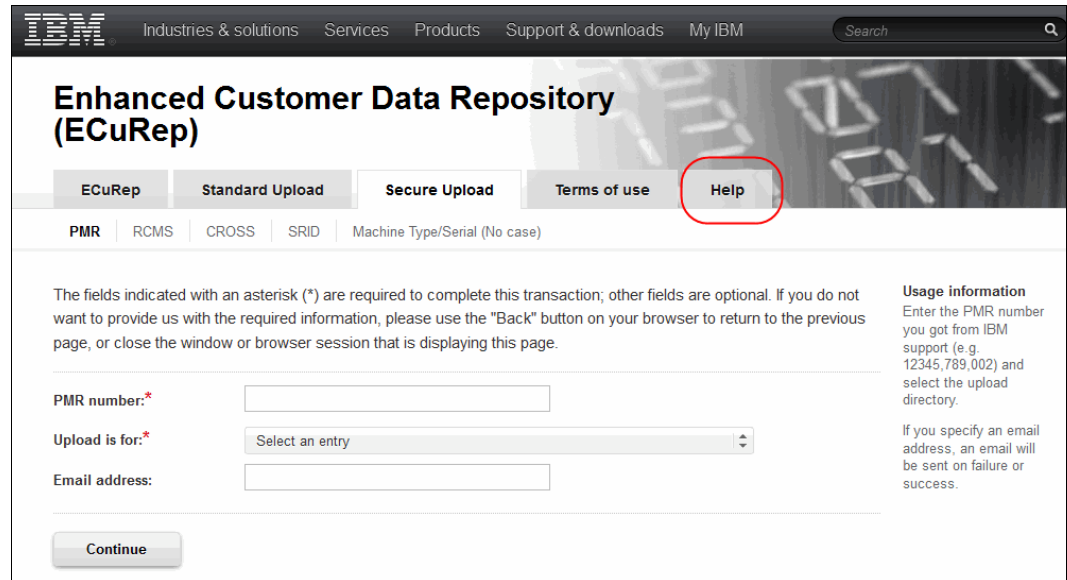

Figure 13-37 Select Help for detailed upload options
1. Go to the Enhanced Customer Data Repository (ECuRep) web page (Figure 13-37):